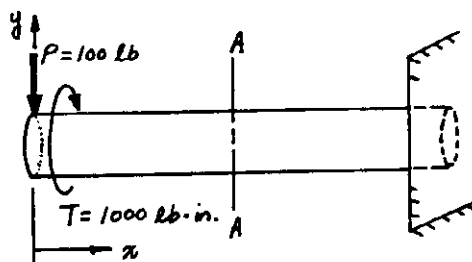

Fig. 4.
4. A solid circular shaft of 2 in.-diameter is fixed to the wall at the right end and subjected to a downward transverse force $P=100$ lb and a torque $T=1000$ lb·in. as shown in Fig. 4. Determine the combined shear stress at A-A, 50 in. from the free end due to P and T . (25%)